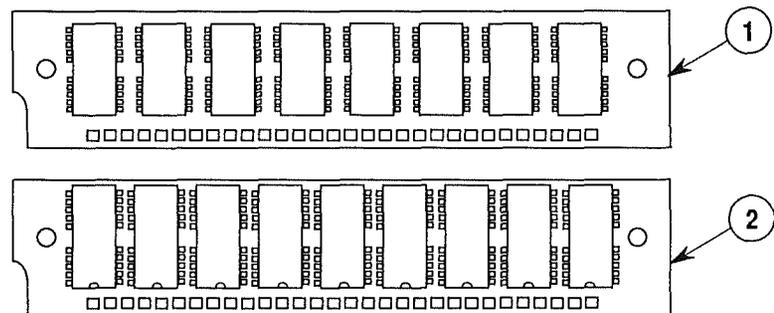

FIGURE 3
- 1 MB SOJ SIMM (Figure 3, #1)
- 1 MB x 9-bit SOJ SIMM (Figure 3, #2)